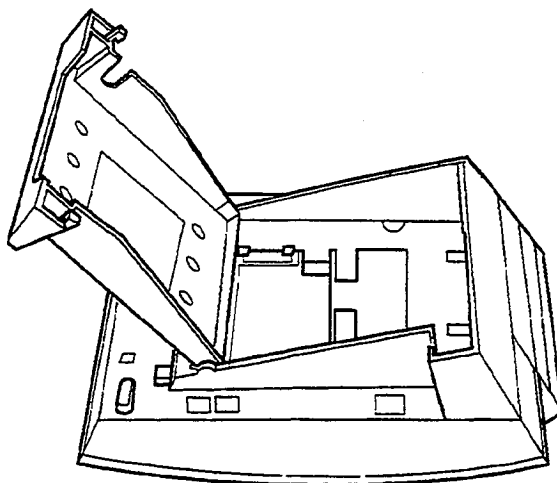

Figure 1-74 Open the Cover on the Digital Multiline Terminal
4. Open the cover to allow access to the ADA receptacle. Refer to Figure 1-74